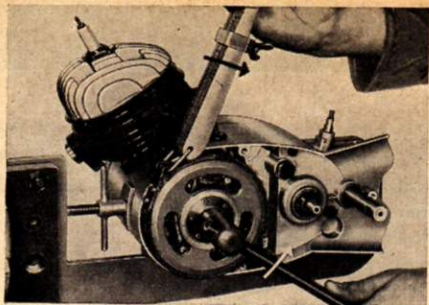

Fig. 21 Unscrewing nut securing flywheel disc VI / 57 / 633
2. Hold the flywheel disc firmly with supporting strap, part No. 0101-71300-00.3, and unscrew M 10x1 hexagonal nut with box spanner (SW 15) (see fig. 21).